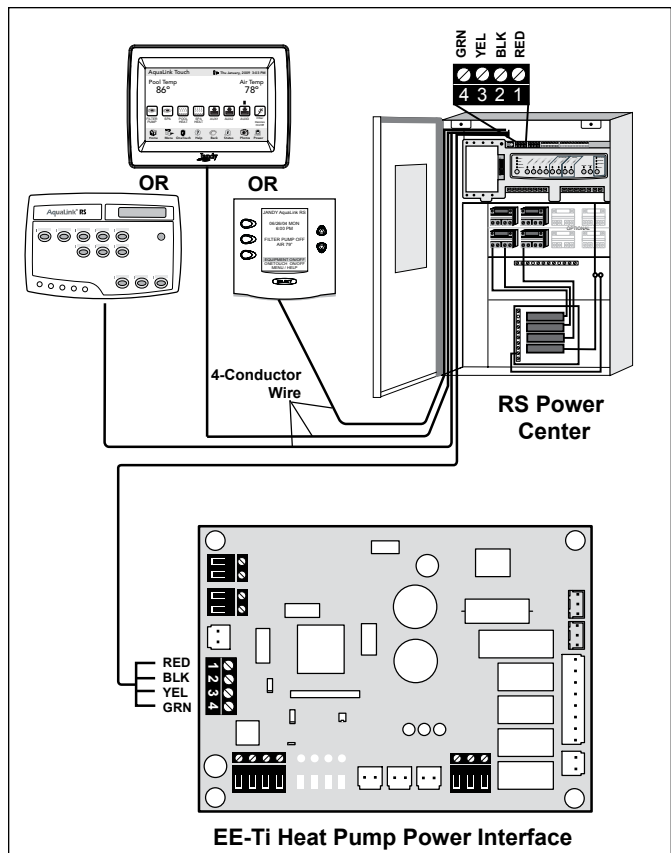

Figure 14. EE-Ti Heat Pump Connection to Power Center
- Confirm the EE-Ti heat pump and AquaLink RS software revisions are compatible (see Figure 14).